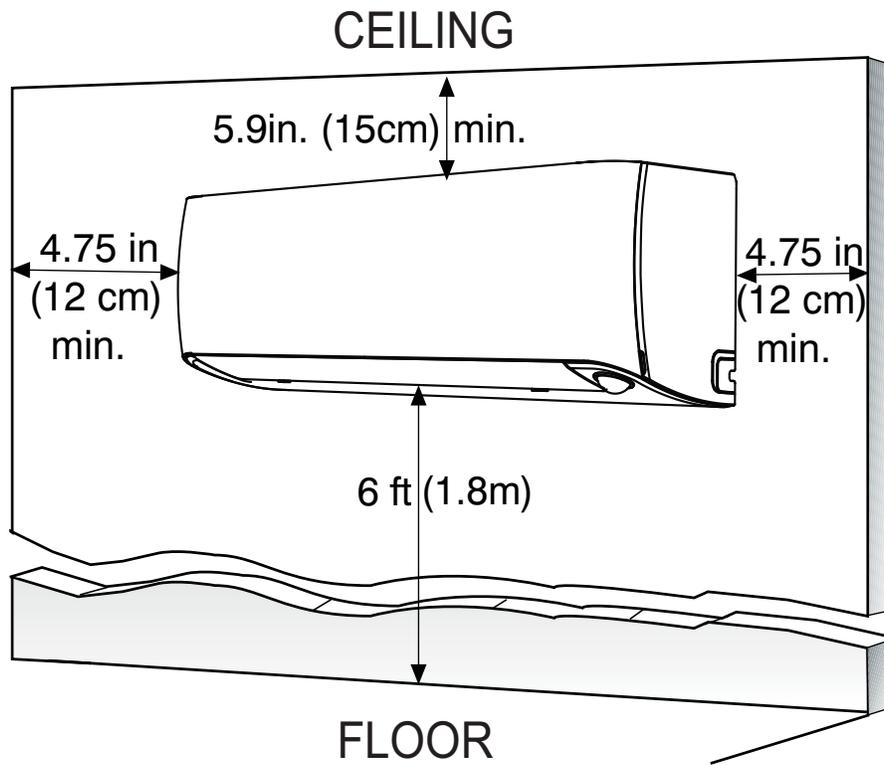

Fig. 3 – Indoor Unit Clearance
Allow sufficient space for airflow and servicing unit. See Fig. 3 for minimum required distances between unit and walls or ceilings.
- A location which provides appropriate clearances (see Fig. 3.)
2. Using the Stencil, determine the wall hole position. The mounting plate should be located horizontally and level on the wall. All minimum spacings shown in Fig. 3 should be maintained.